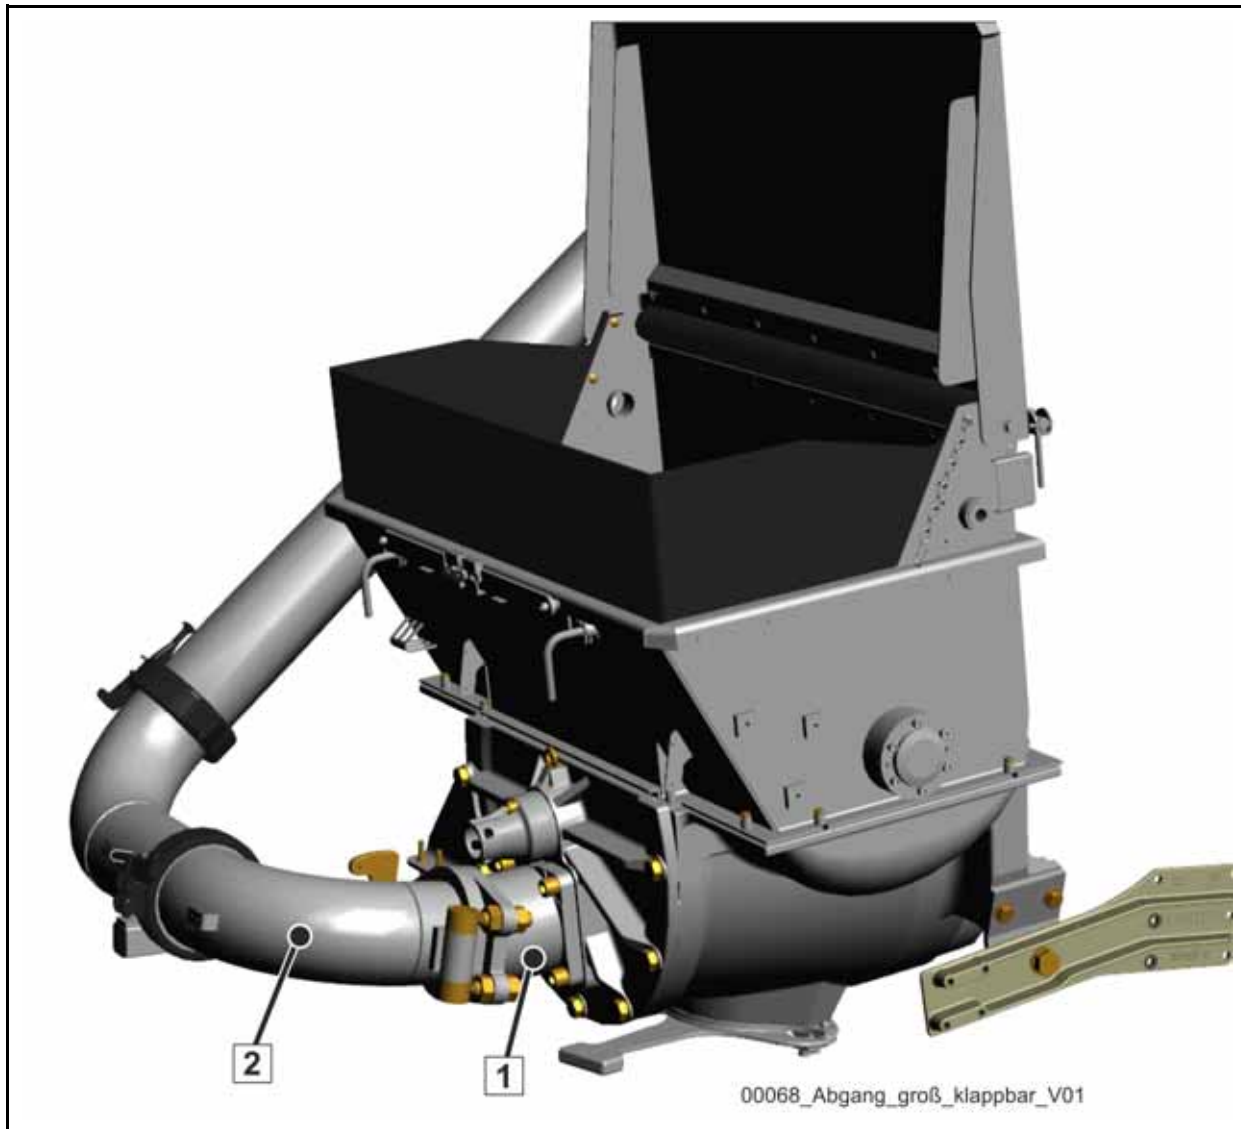

Fig. 157 Large outlet, foldable
The larger outlet 180/180/150 also has a 14-degree elbow mounted on the rock valve, see (1) (Fig. 157).